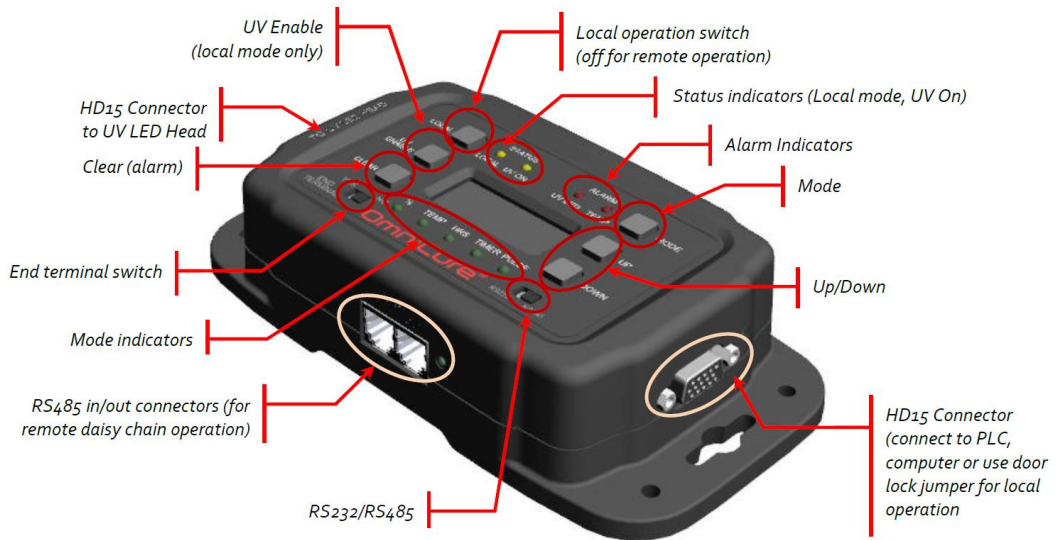

Figure 2 PLC Console (PLC2000 Remote Control Console shown)
4. Ensure that the LED Enable switch on the PLC controller is in the OFF position (see Figure 2).
5. Attach the female end of the PLC cable to the PLC I/O connector on the controller console (see Figure 2).
9. Adjust intensity using the up / down button to the right of the display (see Figure 2), rotating clockwise and counterclockwise to increase and decrease the intensity respectively. Refer to section *Using the LED Head*.
The UV LED Head includes threaded mounting holes (on the front, on the back, and on each side panel) M4 X 6mm deep. Mounting hole locations on the side panel are identical for all AC9+ models. However, front and back mounting hole locations differ according to the model. Refer to Figure 2 above and mechanical drawings for more information (www.excelitas.com/omniure).
To improve the longitudinal uniformity at the ends of the UV light line, the AC9+ series products are equipped with adjustable end reflectors (see Figure 2). These reflectors can be lowered in 10mm increments and can provide about 15mm of extended useful length when fully extended to 30mm working distance. They may also be useful in providing additional operator shielding of UV light.